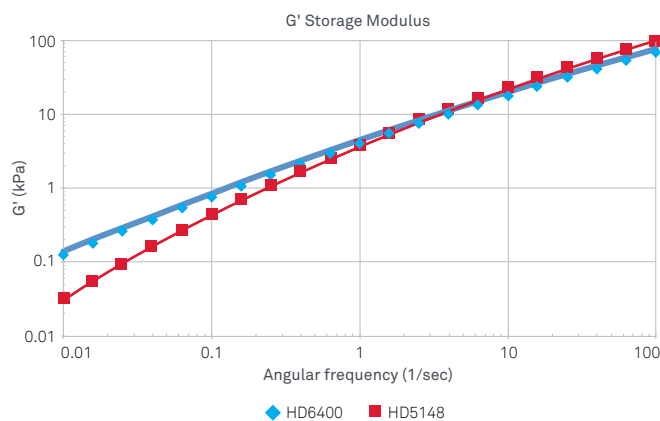

Figure 3. Rheology chart for HD6400 and HD5148 resins
- HD6400 has higher elasticity and higher melt strength and less parison sag than HD5148, as shown by the rheology chart in Figure 3.